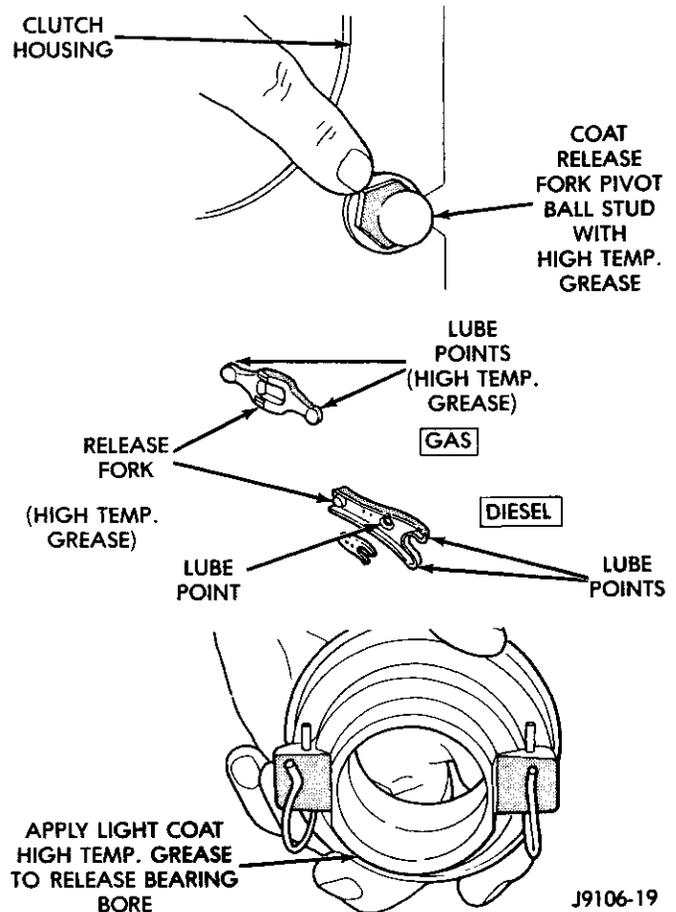

Fig. 6 Clutch Release Component Lubrication Points
(7) Align and hold clutch cover in position and install cover bolts finger tight.
(8) Tighten cover bolts evenly and a few threads at a time. **Cover bolts must be tightened evenly and to specified torque to avoid distorting cover.**
(9) Remove release lever and release bearing from clutch housing. Apply Mopar high temperature bearing grease to bore of release bearing, release lever contact surfaces and release lever pivot stud (Fig. 6).